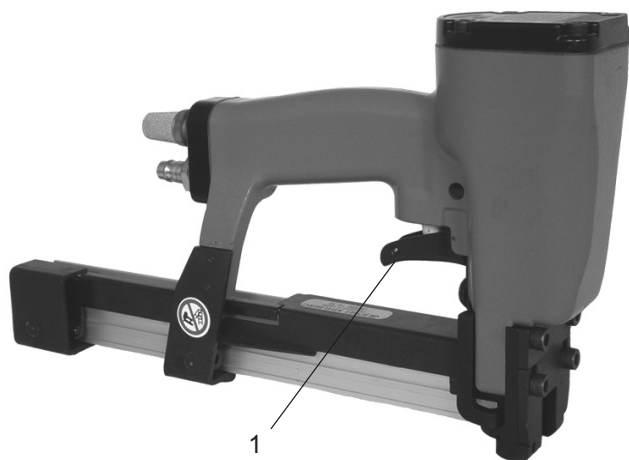

Fig. 2
1. Place the tool against the work piece. Press the tool downwards and pull the trigger (Fig. 2/1). Repeat for next stapling.